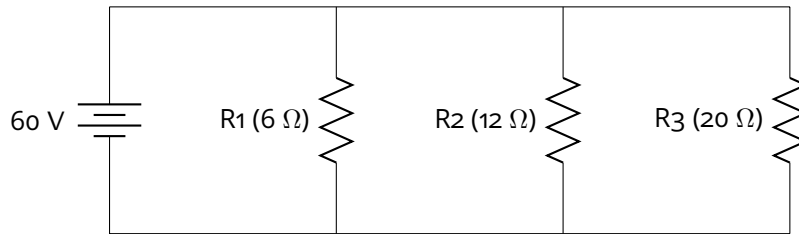

Figure 2: Parallel circuit with resistors 6 Ω, 12 Ω, 20 Ω
• E.g. For the circuit in figure 2,